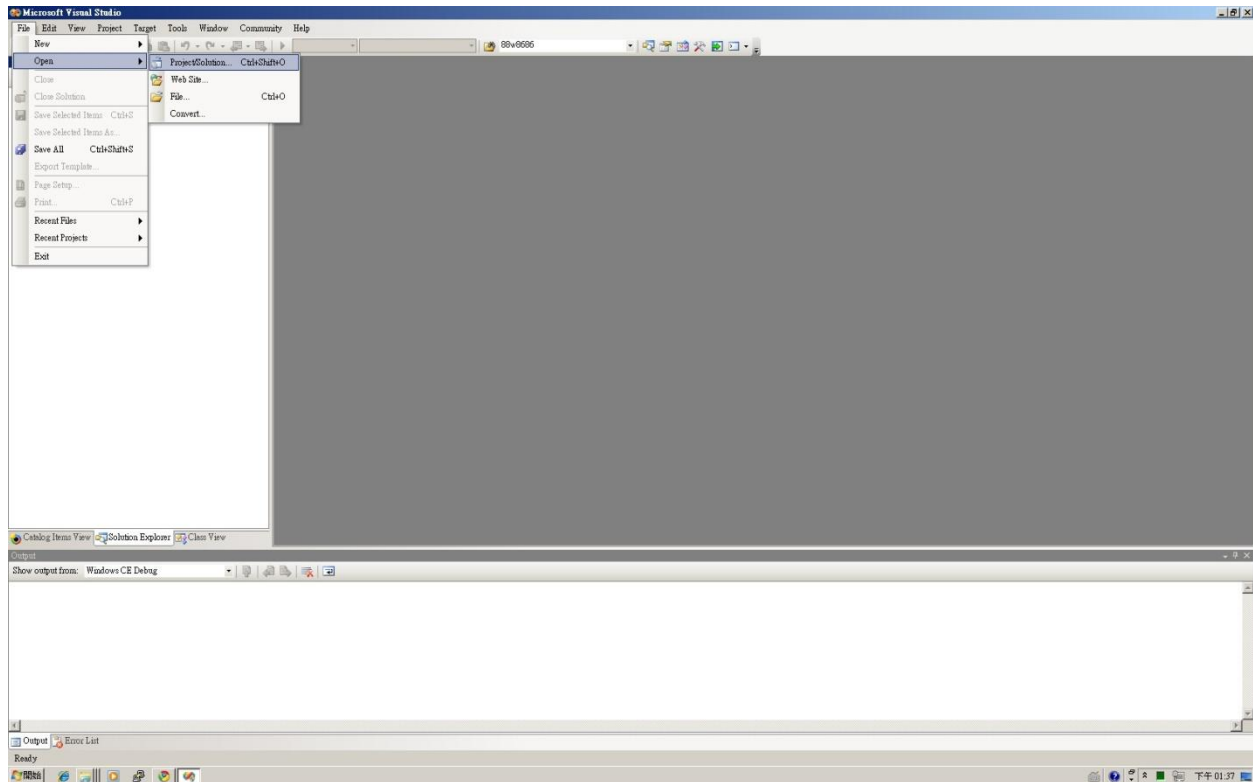

Figure 119
- Click “File → Open → Project Solution” (See Figure 119)